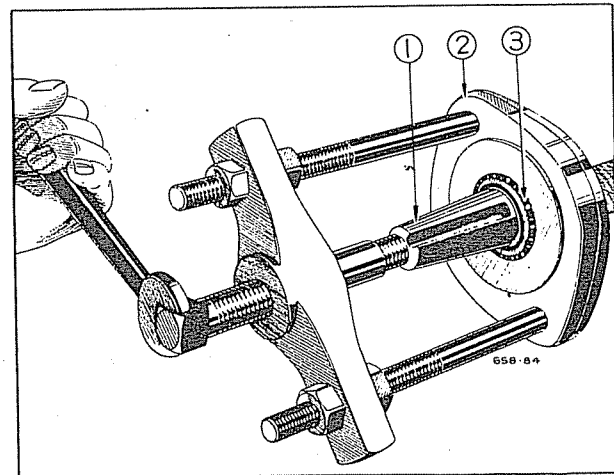

Fig. 5—Removing Bearing from Axle Drive Shaft.
- (6) Remove bearing from axle shaft, Figure 5.